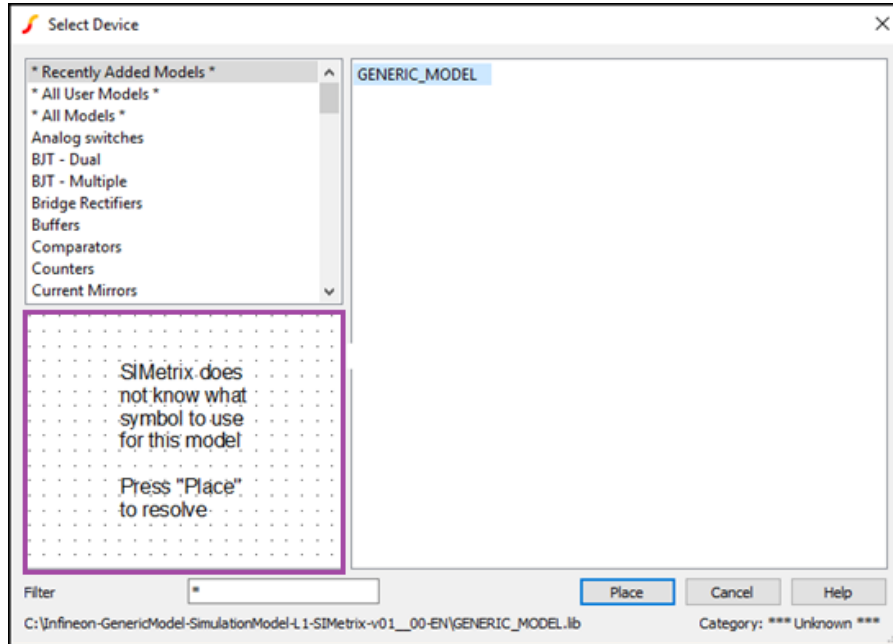
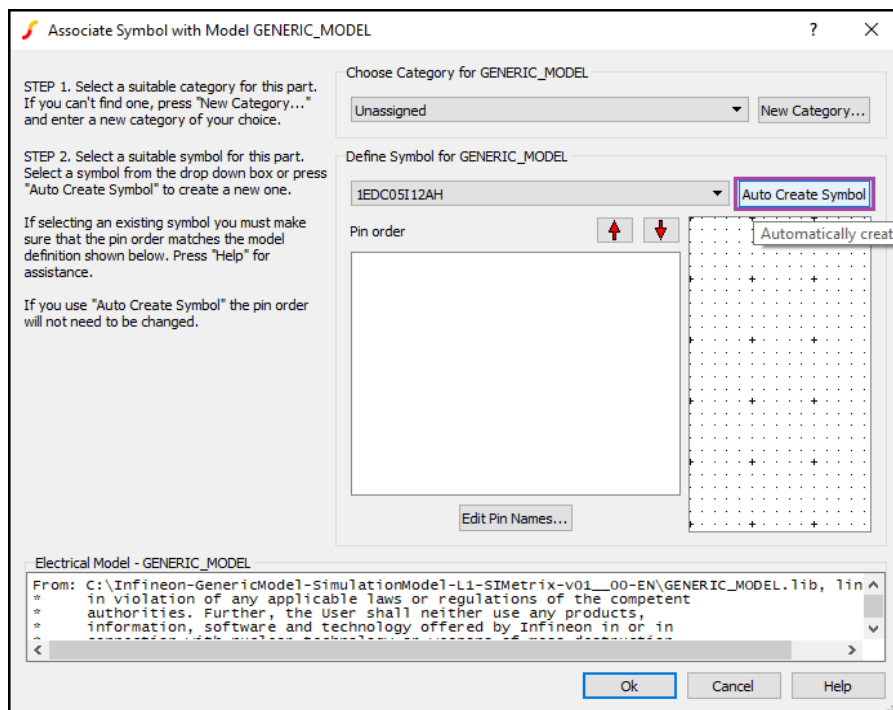

Figure 6 Associate Symbol with Model for unknown part
Figure 7 Associate Symbol with Model – Auto Create Symbol
- In case **SIMetrix** display the following message: “**SIMetrix does not know what symbol to use for this model**” like in **Figure 6**, press **Place**, select **Auto Create Symbol** (Figure 7) and a default rectangular shape will be associated.